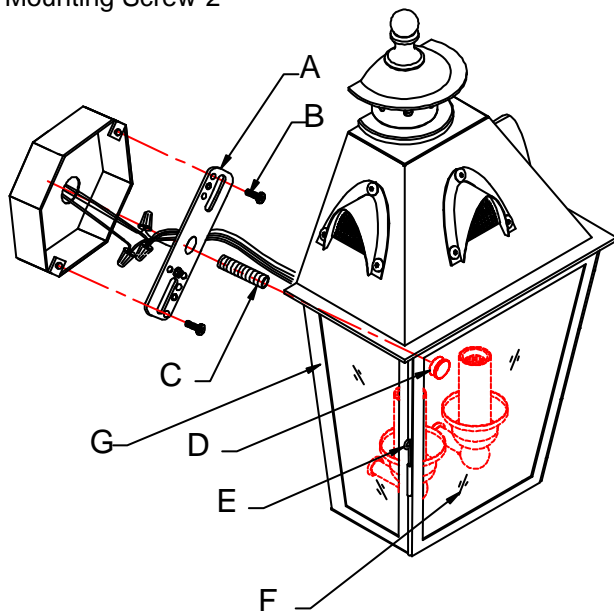

Fig. 2
CONNECTING THE WIRES (Fig. 2)
5. Connect the electrical wires as shown in Fig. 2, making sure that all wire connectors are secured. If your outlet box has a ground wire (green or bare copper), connect the fixture's ground wire to it. Otherwise, connect the fixture's ground wire directly to the crossbar using the green screw provided. After the wires are connected carefully tuck them inside the outlet box.